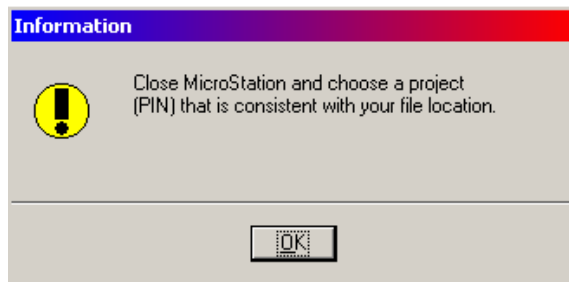

Figure 17-1: Close MicroStation and pick correct PIN.
- ♪ If you get warning stating that you need to “Close MicroStation and choose a project (PIN) that is consistent with your file location” (Figure 17-1), it means that you entered MicroStation incorrectly. This is a safety measure to insure that the user is going to write the correct information into the title boxes. This is all based on the *Project* pull down matching the PIN you are working on. Close MicroStation if you get this error and go back to **Step One** and try again. If you still get an error, contact CADD Support personnel.